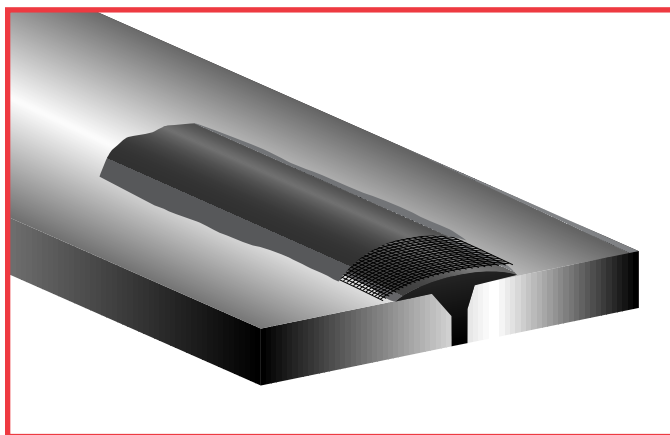

Figure 13. Over-coat the epoxy/tape application with another coating of epoxy.
6. **Apply** another 1/16" to 1/4" (1.5 – 6 mm) of epoxy over the reinforced mesh and smooth out the epoxy. To prevent lifting of the repair, be sure to feather the edges in keeping with the contour of the repaired equipment. (See figure 13)